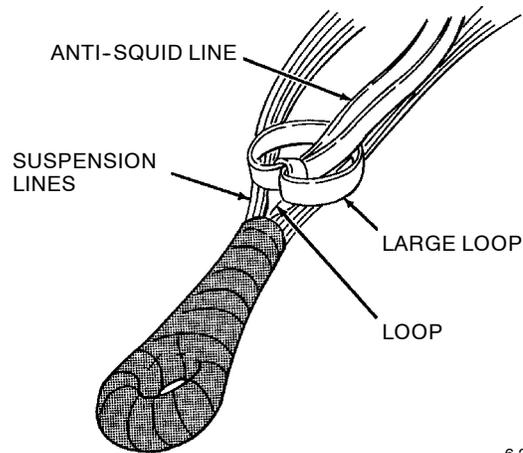

Figure 12. Attachment of Anti-Squid Line to Controller Drogue
b. Pass small loop end of anti-squid line thru large loop and pull tight to form a knot (Figure 12).